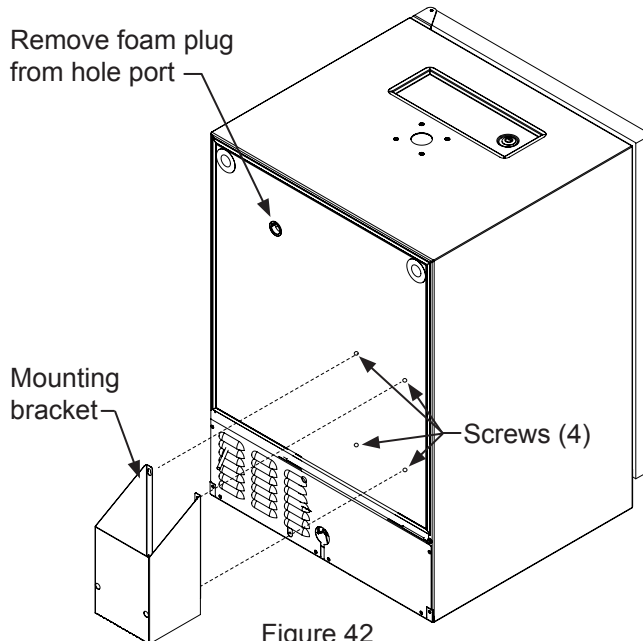

Figure 42
Mount the (4) screws (#10-32 x 3/4" flathead machine screws) provided with the bracket in the rear of the appliance, see Figure 42. Do not completely tighten. Place the keyhole slots in the flanges of the bracket over the four screws and tighten them to secure the bracket to the back of the cabinet. The bracket can also be fastened to adjacent cabinetry using the provided #10 x 3/4" wood screws. Mark the hole locations where required using a pencil and the slots in the mounting bracket. Drill appropriate pilot holes (depending on the material you are mounting to) and secure the bracket per the above instructions.
Remove the foam plug from the hole port as shown in Figure 42, and feed the red CO₂ line through the rear wall and out the coil cover on the inside of the cabinet. Connect the red CO₂ line to the keg coupler.